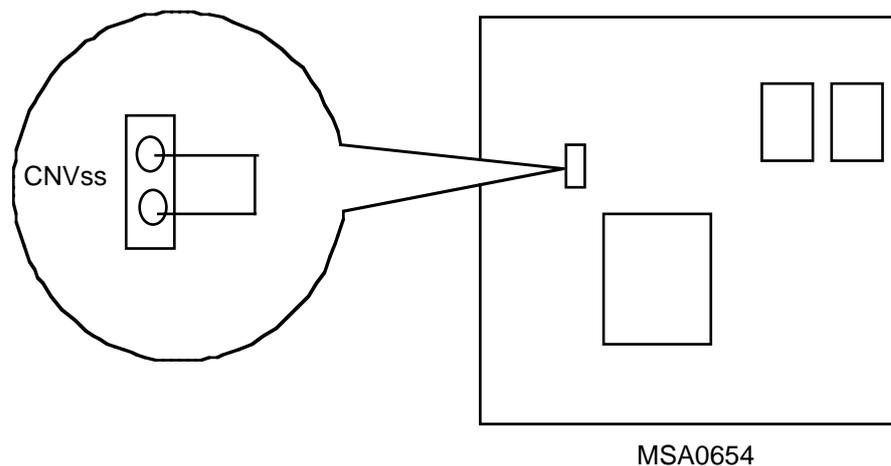

Figure 7-1 Setting MSA0654
- (1) Short the CNVSS pin (shown below) on the MSA0654. (Figure 7-1)
- (2) Set 10MHz oscillator for MSA0654G01, or 16MHz oscillator for MSA0654G02.
- (3) Turn on the power to the MSA0654G01/G02.
- (4) Start FlashWriterSW include MSA0654-G01/G02.
- (5) Write the corrected the monitor program to MSA0654G01/G02 with FlashWriter.
- (6) Turn off the power to the MSA0654G01/G02.
- (7) Open the CNVss pin at Figure 7-1.